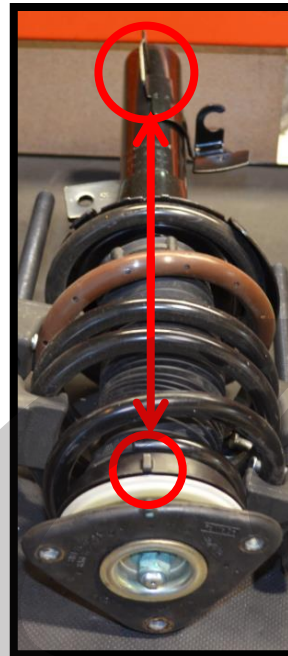

Figure 2k
- m) Line up the upper strut mount tabs with the lowest bracket on the strut (red lines in Figure 2k). Tighten the spring compressor.
m) Line up the upper strut mount tabs with the lowest bracket on the strut (the two tabs are shown in Figure 2k circled and aligned to one another). Make sure the bottom of the spring (biggest coil) is seated fully in its perch as shown circled in Figure 2l.